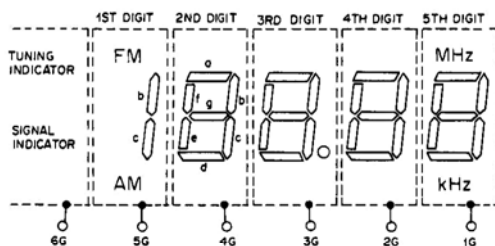
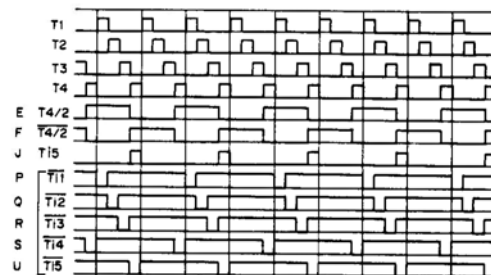
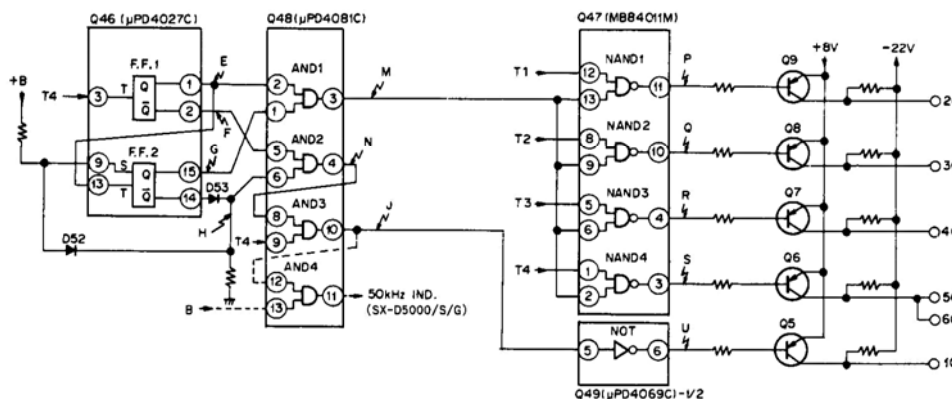
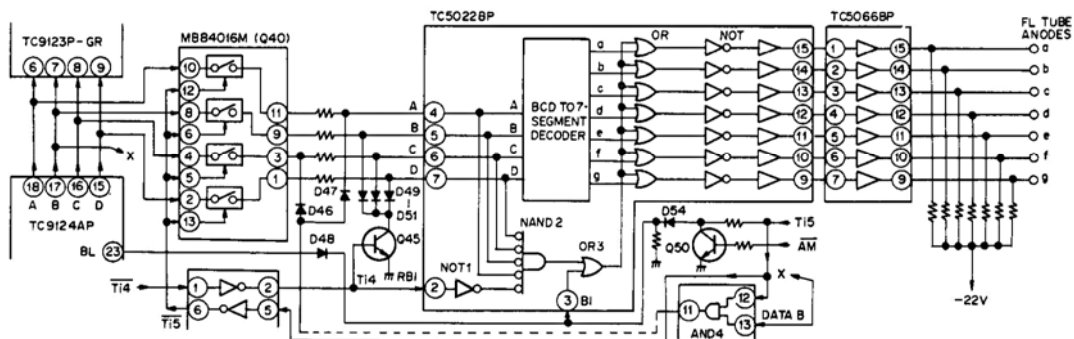

Fig. 4-13 FL Tube 5-digit Digital Display
Fig. 4-15 Time Division Pulse Time Chart
Fig. 4-14 Time-share Converter Logic Circuit
Fig. 4-16 Anodes of the FL Tube Drive Circuit
The SX-D5000 displays the selected station frequency on a 5-digit digital display using a fluorescent indicator tube (FL tube) as a source. As noted in Fig. 4-13, the FL tube display grids are divided into five independent units.
Fig. 4-14 illustrates the configuration of the time-share converter logic. The terminals 1G thru 6G noted on the right side of the figure are connected to the FL tube grids (See Fig. 4-13). When no time division pulses (T1—T4) are present, the NAND gates 1 thru 4 (Q47) and the NOT gate (Q49) output P, Q, R, S, and U respectively at a high level. Thus, Q5 thru Q9 are off; the FL tube grids are reverse-biased, and no light is emitted.
Fig. 4-15 shows the time division pulse time chart. The time division pulses U, S, R, Q, and P shown in Fig. 4-15 are applied to the bases of Q5 thru Q9. One by one they become active, providing dynamic time division drive to the 5-digit display.
Referring to Fig. 4-14, pulse T4 (Fig. 4-15-T4) is applied to the clock terminal (T) of flip-flop 1 (Q46), the output E is as illustrated in Fig. 4-15-E. (Flip-flop 1 is reversed on the rising edge of T4, and divides the frequency of the pulse in half.) When a +B signal applied to the set terminal (S) of flip-flop 2 brings it to a high level, output G from the Q terminal goes to high level independent of the input at the clock terminal (T). Output M from AND1 (Q48) is gated by input G at a high level, and is equal to input E. It is illustrated by Fig. 4-15-E. AND2 (Q48) will gate when D52 is conducting, thereby setting input H to a high level. Output N is equal to input F, and is illustrated by Fig. 4-15-F. Output J from AND3 (Q48) is the AND of input N (Fig. 4-15-F) and T4 and is illustrated by Fig. 4-15-J. The output P, Q, R, and S of NAND1 thru 4 (Q47) is the AND negation of input M (Fig. 4-15-E) and T1 thru T4, and is illustrated by Fig. 4-15-P, Q, R, S. Output U from NOT (Q49) is the negation of input J (Fig. 4-15-J) and is shown by Fig. 4-15-U. Through the use of the above logic gates the indicator time division pulses (Ti1—Ti5) are
The formulation of the numerical digits by the FL tube is accomplished by 7 segments, illustrated as a through g in Fig. 4-13. (The first digit uses only b and c.) TC9124AP transmits the time-shared reception frequency data T1—T4 as BCD code from terminals A, B, C, and D. (See table 2.) MB84016M (Q40) in Fig. 4-16 is an electronic switching device activated by the appearance of a Ti5 pulse, as represented by U in Fig. 4-15. It serves to inhibit the transmission of frequency data to the 5th digit. The frequency data is converted from BCD code to decimal number 7-segment display data by TC5022BP. The 7-segment display data is passed